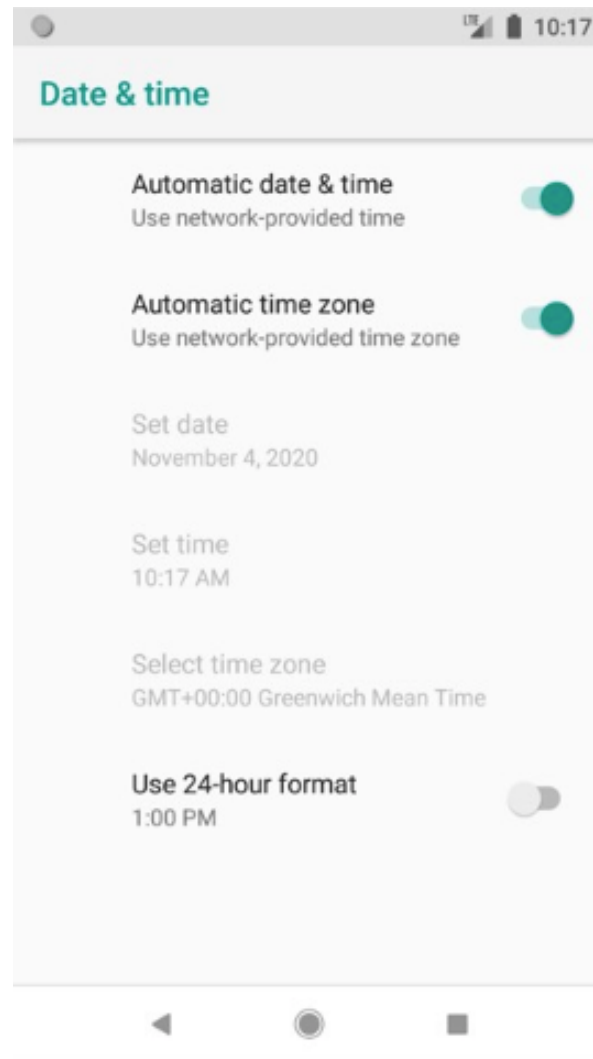

Fig. 35 – Date and time configuration screen.
4. **Date and Time.** Use this screen to manually configure the date and time of the device, by default this is set to automatic and will sync with an internet time service local to the user (see Fig. 35).